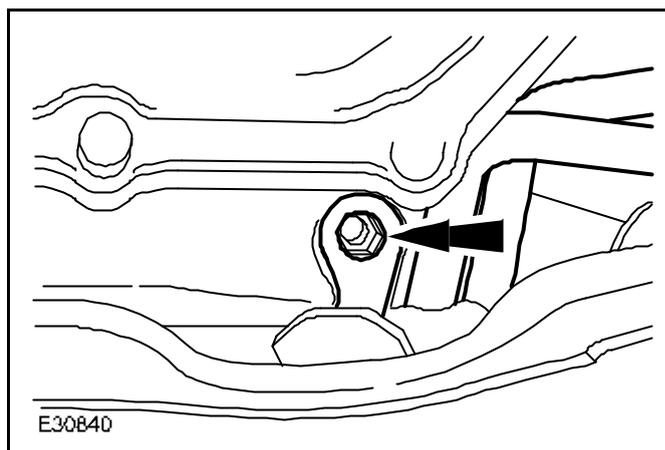

Fig. 10
- 20 Attach the transmission fluid cooler tubes to the oil pan (see Fig. 10).